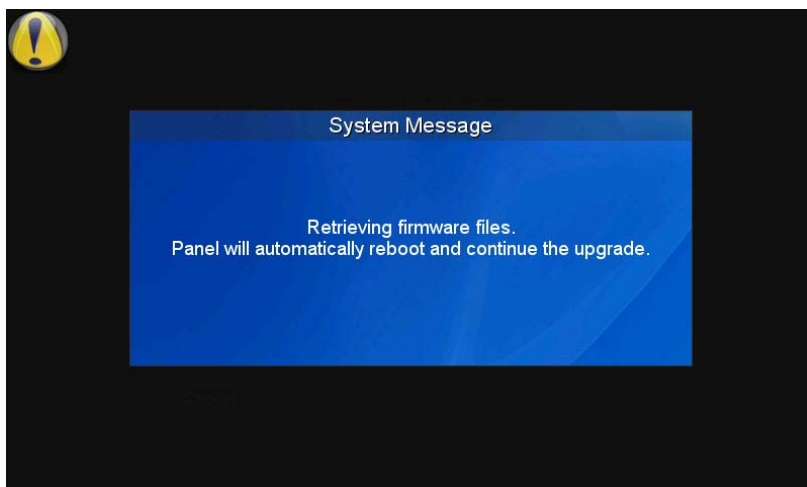

FIG. 111 Factory Firmware Reset system message
- If you choose **Yes**, the device will retrieve the files and then reboot (FIG. 111).